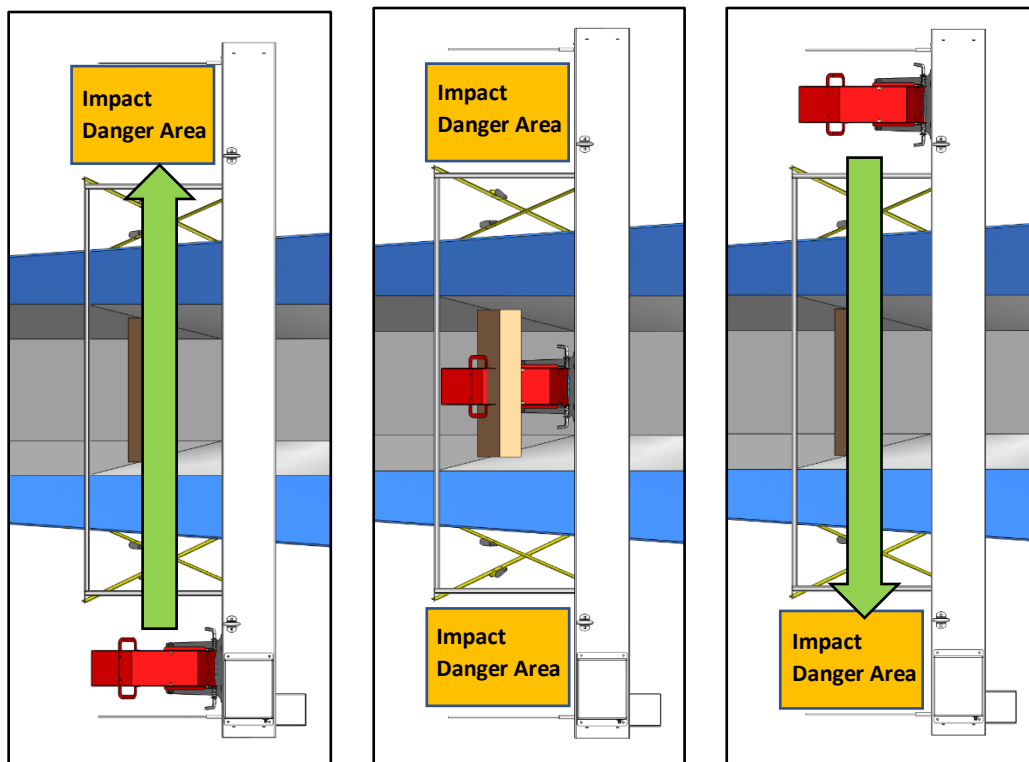

Figure 7 – Top view of moving cart and bucket travel, indicating areas of impact danger
- The A-1000 sample taker is operated using an electrical motor and it can reach significant speed by the end of its travel. **The cart can move very quickly when taking a sample, and either loaded or unloaded, it is heavy enough to cause significant bodily harm or death if it strikes a person while in operation. Great care should be taken by the operator to ensure that no persons are near the machine or in its path during operation.** See Figure 7